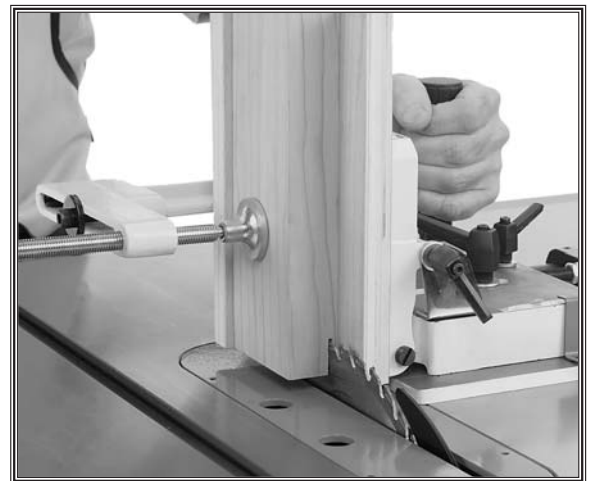

Figure 22. Making the first structural cheek cut.
Note: Remember to allow for the width of the kerf when aligning the workpiece. Also, keep the cuts close to the side support backing board, as shown in **Figure 22**, to support the waste piece and reduce the risk of it breaking off during the cut.
6. Firmly grasp **BOTH** handles of the jig, then slowly slide the workpiece through the blade to make the first structural cheek cut, as shown in **Figure 22**.